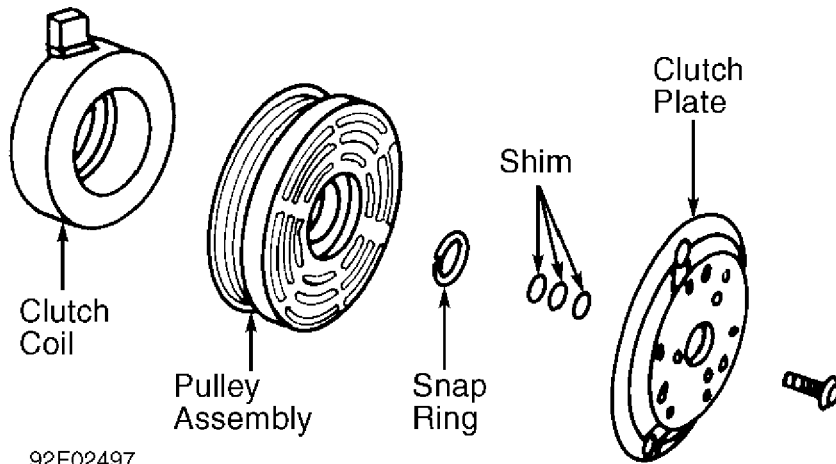

Fig. 6: Exploded View of Compressor Clutch (Ford FX-15)
1) Using Clutch Holder (00 41 0812 05), remove clutch plate retaining bolt and discard. Using an 8 mm bolt threaded into clutch plate, remove clutch plate and shim(s). See Fig. 6.
1) Using Clutch Holder (000 41 0812 05), remove clutch plate retaining bolt and discard. Using an 8 mm bolt threaded into clutch plate, remove clutch plate and shim(s). See Fig. 6.